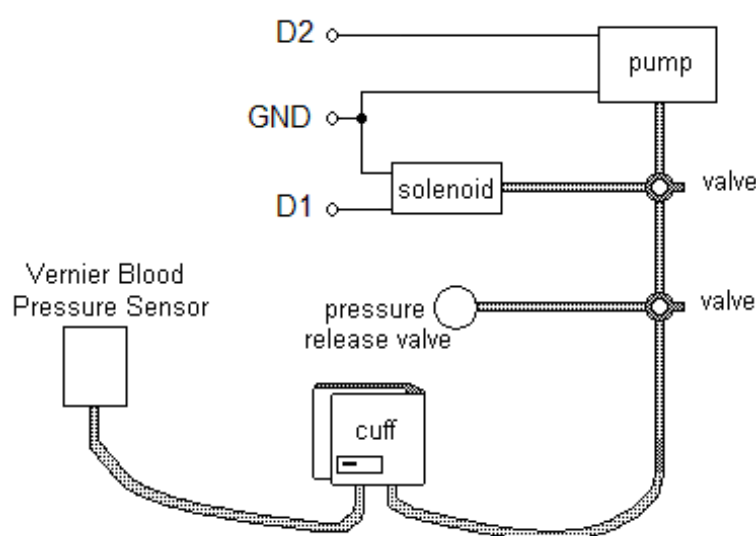

Figure 3.9: Pumping device for blood pressure cuff
1. Build the device as shown in figure 3.9 below. The sensor, cuff, and pressure release valve are provided with the Vernier Blood Pressure Sensor. These parts will be used in the same manner as they were used in the Project. An additional solenoid valve and electric pump will be used. The solenoid valve provides a means to automate the immediate exhaust of all the pressure out of the cuff. This quick release of pressure is desirable in case of discomfort to the user and also when data collection has ended. You will also need to obtain a pump. The electric pump will take the place of the hand pump you used in the Project. The two additional T-valves shown in the figure are optional. Their purpose is to isolate portions of the device to aid in testing during assembly. They may also be useful for immediately stopping cuff inflation in the case of a programming error. These valves should all be turned to the Open position when you are ready to begin blood pressure measurements.